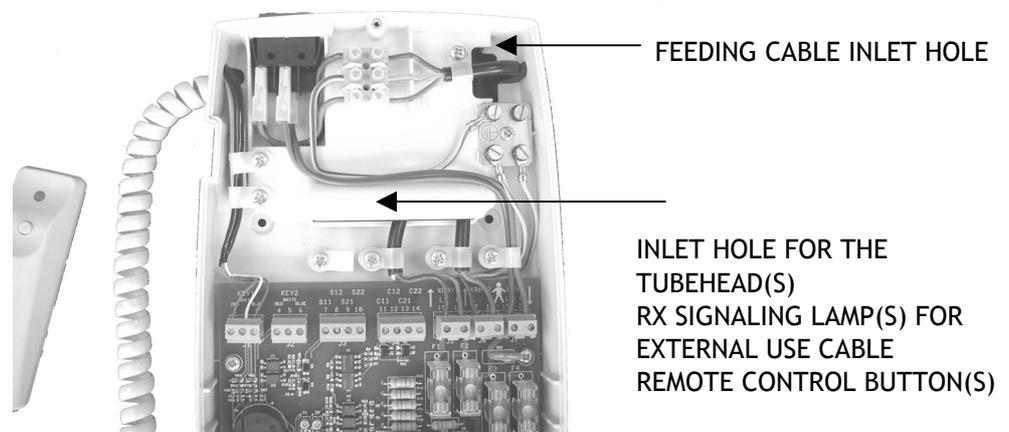

Fig. 22
8. Insert the electrical feeding cables into the hole (*Fig. 22*)
10. Insert the cables of the RX signaling lamp for external use (IF INSTALLED) (*Fig. 22*)
11. Insert the cables of the remote control button (IF INSTALLED) (*Fig. 22*)